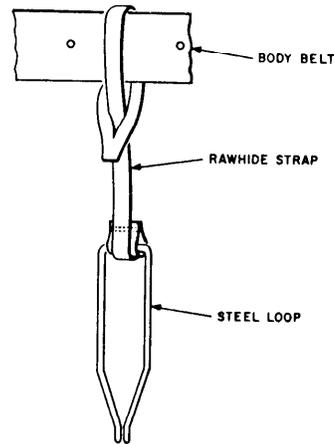

Fig. 1 - B Handline Carrier
- 2.05 When necessary to carry a handline up a pole or ladder, secure one end of the handline to a B handline carrier (Fig. 1) attached to a body belt. If the B handline carrier is not available, double the end of the handline back on itself for a distance of approximately 1 foot and place this loop under the side or back of the body belt so it will be released under tension.